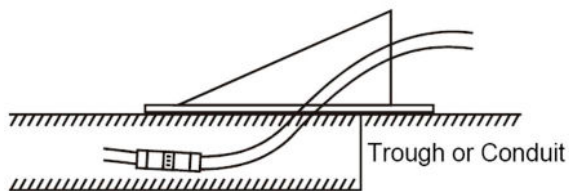

Figure 1
- Connectors mounted in trough under mounting bracket (Figure 1)